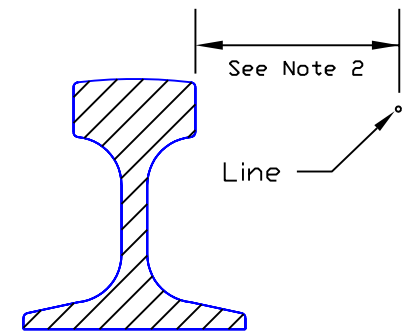

Fig. 2
- 2) Stretch a line (Chalk Line or twine e.g.) between Point 1 and Point 3 (22'). Measure the distance between the inside face of the rail head at Point 2 to the line (See Fig. 2). Always take these measurements at the inside face of the rail on the high side of the curve and round to the nearest $\frac{1}{8}$ ".